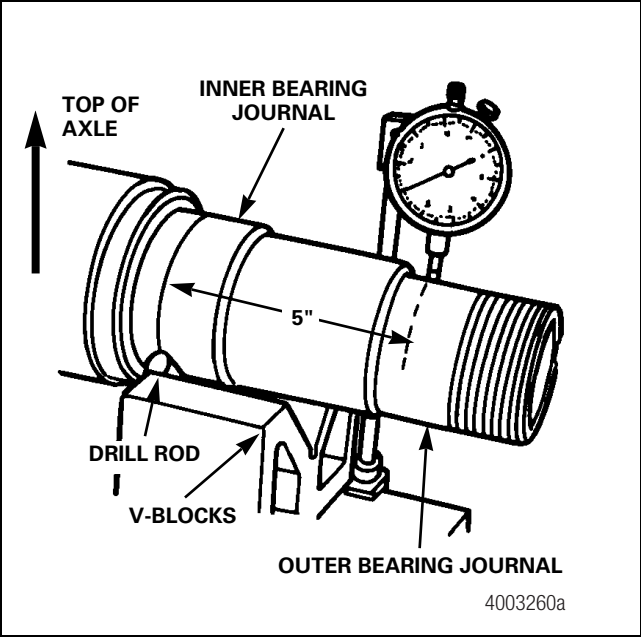

Figure 8.16
6. At the top of the axle, measure exactly five-inches (127 mm) from the line on the inner bearing journal to the outer bearing journal. Mount a dial indicator so that the stem measures vertical run out. Figure 8.16.